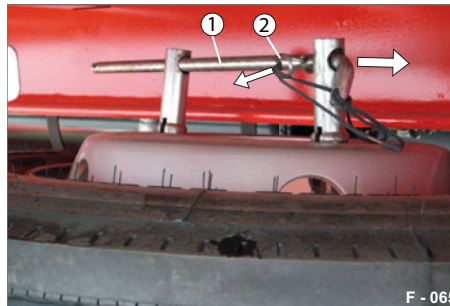

Fig. 83 Release tommy bar
- ▶ Remove the spring pin (Fig. 83/2).
- ▶ Pull the tommy bar (Fig. 83/1) out of the two tube nuts.